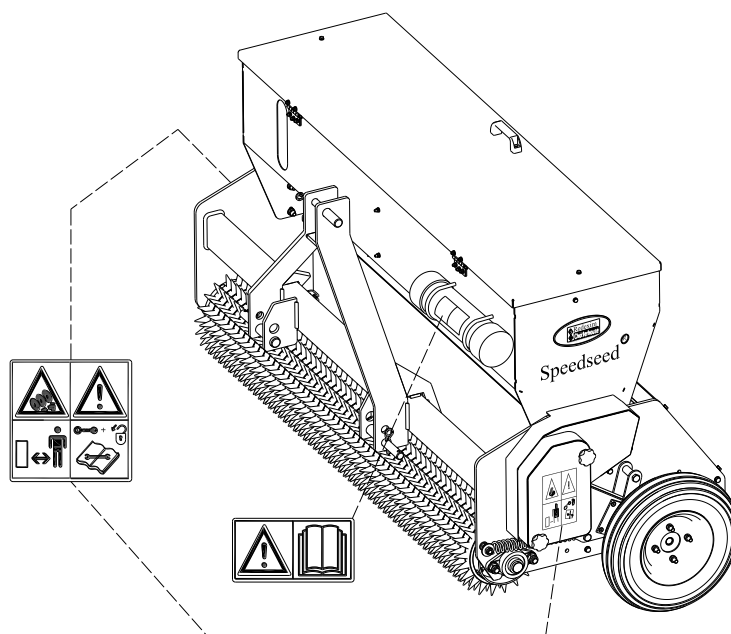

Fig.5
- (7) Location of safety stickers (Fig. 5).